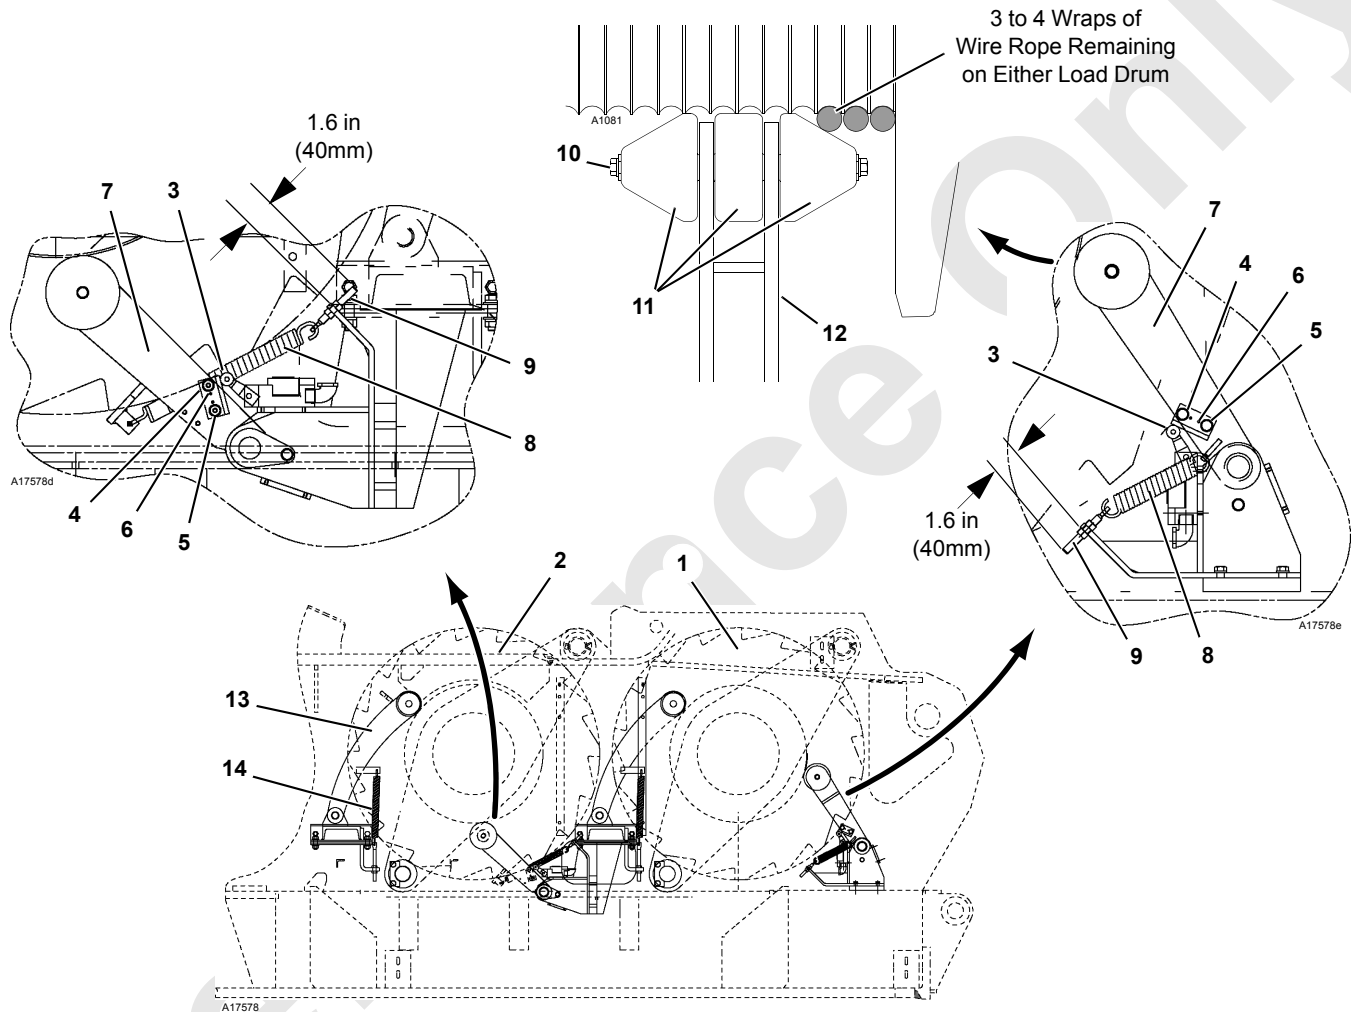

FIGURE 5-2
See Figure 5-2
3. Pay out wire rope until bail limit rollers (11) are against bare or lagged drum with three full wraps of wire rope remaining on drum.
6. Adjust return spring eyebolt (9) to dimension shown in Figure 5-2.
See Figure 5-2 for the following procedure